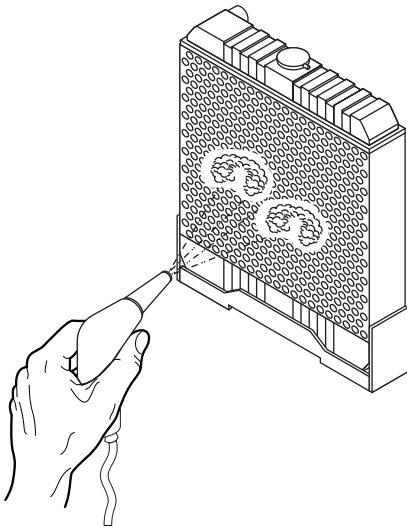

Figure 25. Radiator Cleaning
1. Blow off dirt and dust from fins and radiator with 28 psi (0.19 MPa) or less of compressed air (Figure 25). Be careful to not damage the fins with the compressed air.